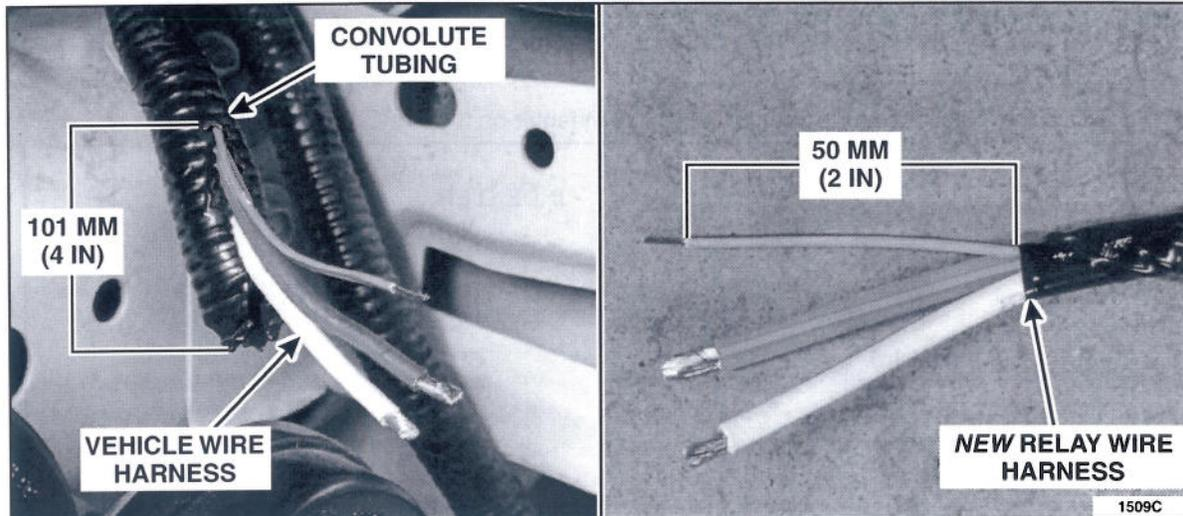
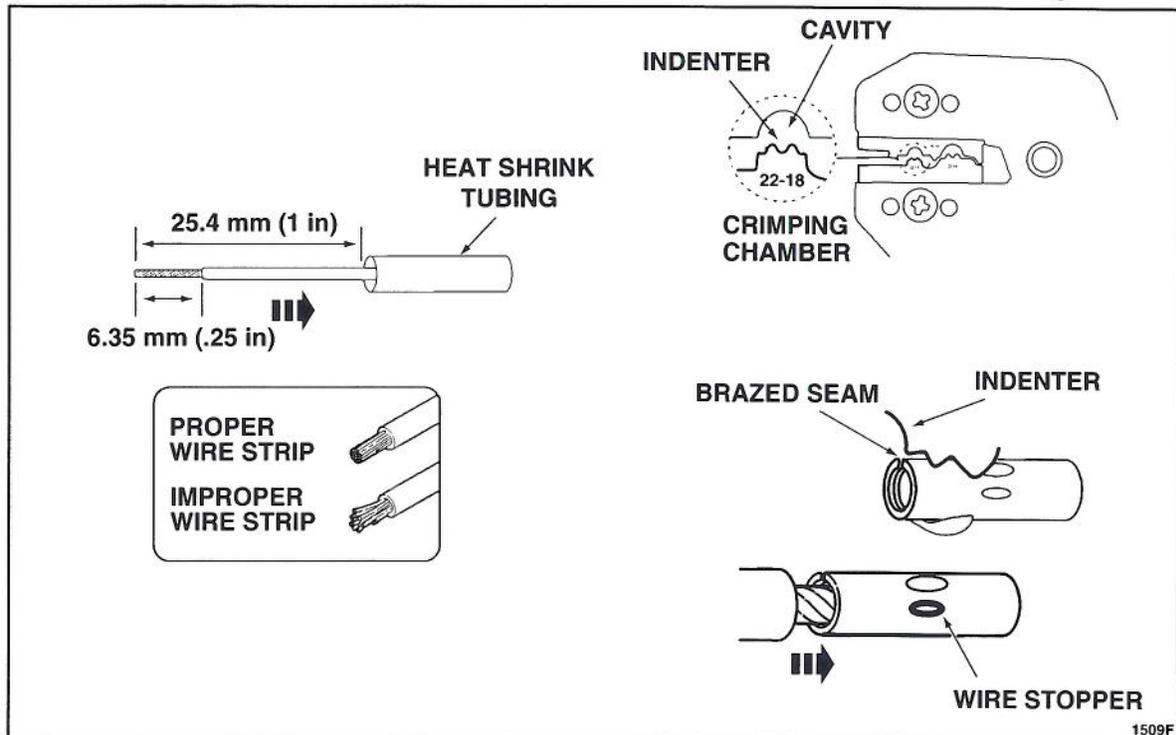

FIGURE 4
FIGURE 5
6. Using a commercially available sheathing ripper such as Snap-On SGTT4A or equivalent, open/cut approximately 101 mm (4 in) of convolute tubing from the vehicle wire harness. See Figure 4.
7. Trim the *new* relay harness wires to extend 50 mm (2 in) past the harness insulation. Using the wire stripping tool from the Rotunda/Motorcraft wire splice tool kit or equivalent, remove the insulation from each of the three wires to remove approximately 6.35 mm (.25 in) of insulation from the end of each wire. See Figures 4 and 5.
8. On the vehicle wire harness, remove the wire insulation from each of the three wires to remove approximately 6.35 mm (.25 in) of insulation from the end of each wire. See Figures 4 and 5.
9. Position ES-1 double wall heat shrink tubing onto each wire (vehicle harness side). See Figure 5.
10. Match up each wire by color and join together. See Figures 4 and 5.
- Two (2) 3U2Z-14A088-CA (WT-56816) for the 10 gauge wires (thicker wires).
- One (1) 3U2Z-14A088-AB (WT-56814) for the 20 gauge wire (thinner wire).
- b. Using Rotunda 164-R5901 Pro-Crimper from the Wire Splice Tool Kit – NAIAT-R5903 or equivalent, crimp the wire splice connectors. Make sure to use the correct crimping chamber. See Figure 5.
NOTE: Be sure to place the brazed seam toward the indenter on the Pro-Crimper tool. See Figure 5.